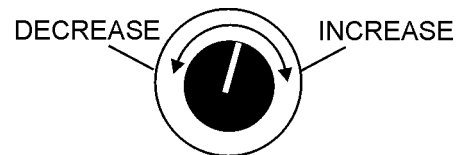

Figure 46. Voltage Adjust Control Knob
8. If the voltage is not within the specified tolerance, use the voltage adjustment control knob (Figure 46) to increase or decrease the desired voltage.